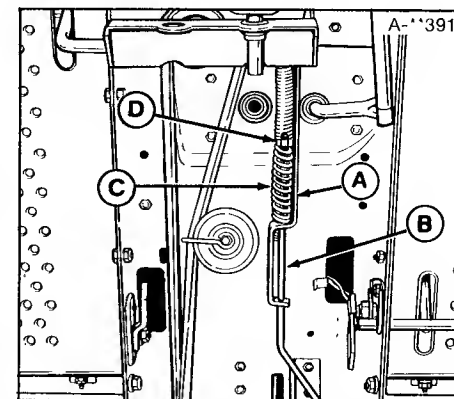

Figure 28. Brake Adjustment
3. With the rod guide (A, figure 28) on brake rod as far rearward as slot will allow, the nut (D) should be snug against spring (C), but spring should still be able to rotate. Tighten or loosen nut as necessary to achieve this.